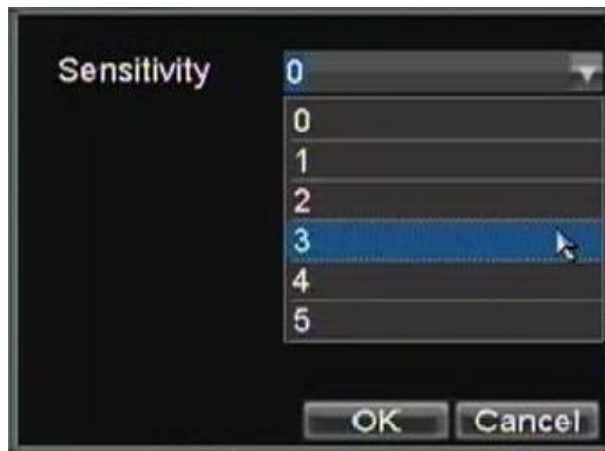

Figure 3. Motion Sensitivity Setting
6. Set the Motion Detection Sensitivity, shown in Figure 3. The higher the sensitivity value, the higher the sensitivity.